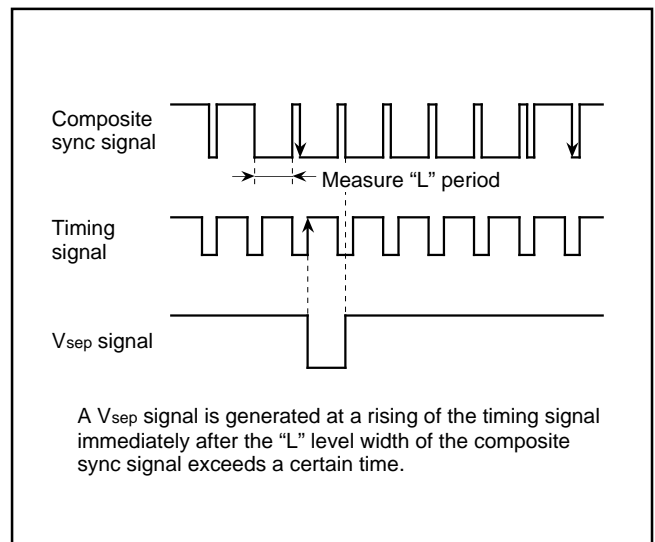

Fig. 36. V_{sep} Generating Timing (method 2)
- Method 2 The "L" level width of the composite sync signal is measured. If this width exceeds a certain time, it is detected whether a falling of the composite sync signal exists or not in the "L" level period of the timing signal immediately after this "L" level. If a falling exists, a V_{sep} signal is generated in synchronization with the rising of the timing signal (refer to Figure 36).
Figure 36 shows a V_{sep} generating timing. The timing signal shown in the figure is generated from the reference clock which the timing generating circuit outputs.